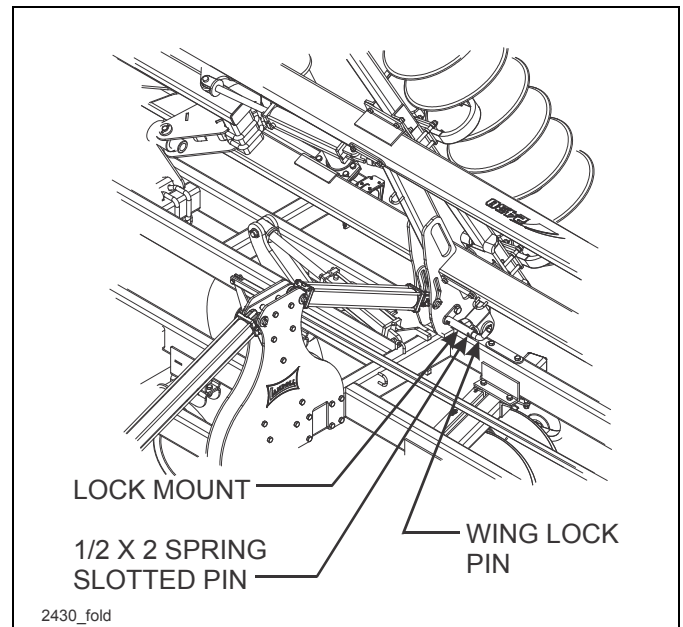

Figure 4-5: Position in Folded Position
- To fold/unfold the Weatherproofer I, find a level area large enough to accommodate the Weatherproofer I when it is fully unfolded. The tractor should be stopped and not moving with the unit fully raised. Remove the wing lock pins from the mounts and install them in the storage locations (See Figures 4-5 and 4-6).